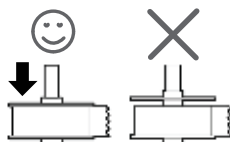

Figure 8
- 4 Hold the spool spindle in your left hand and place the label roll on the spindle so that the labels feed from underneath and the left edge of the label roll is flush against the side of the spool. See Figure 8.
- 5 Place the spool guide onto the right side of the spool and press the guide tightly against the side of the label roll, **leaving no gap** between the roll and the spool. See Figure 8.
**NOTE** The label roll must fit snugly against both sides of the label spool, with no gaps, to avoid drifting as the labels feed through the printer. See Figure 8.